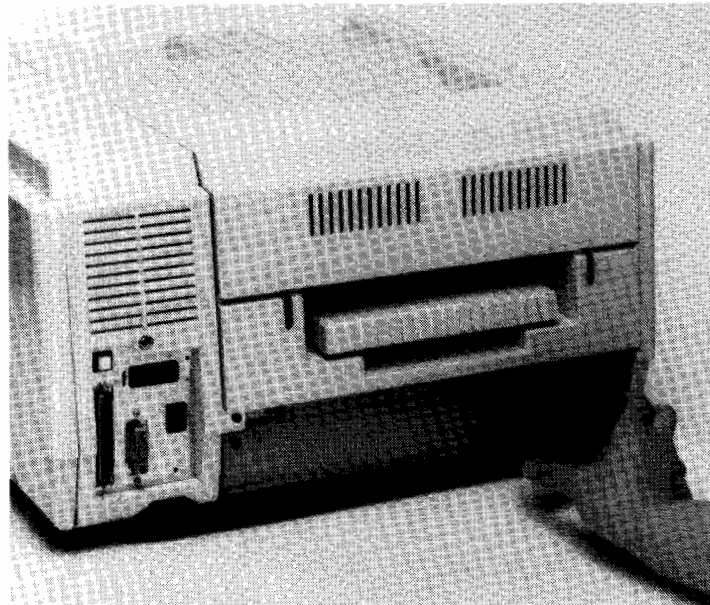

Figure 4-16. Replacing Ozone Filter
- b. Replace the ozone filter (figure 4-16).